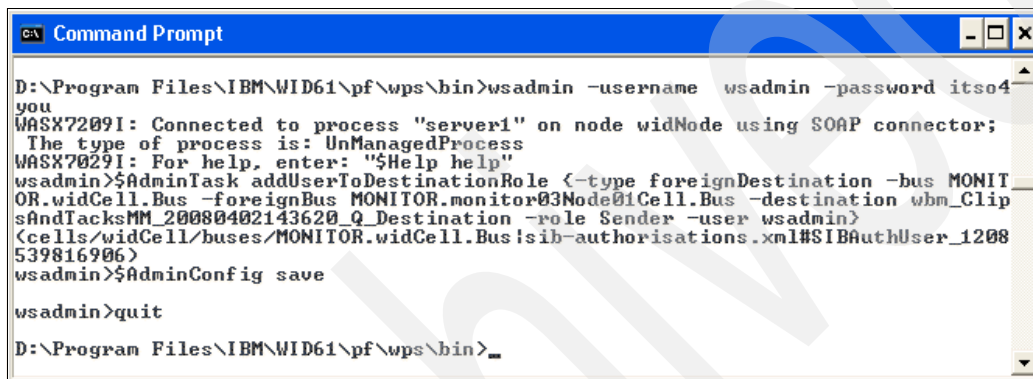

Figure A-96 Granting access rights to foreign queues
5. Enter the following commands for each destination to which you want to grant the administration user access (Figure A-96):